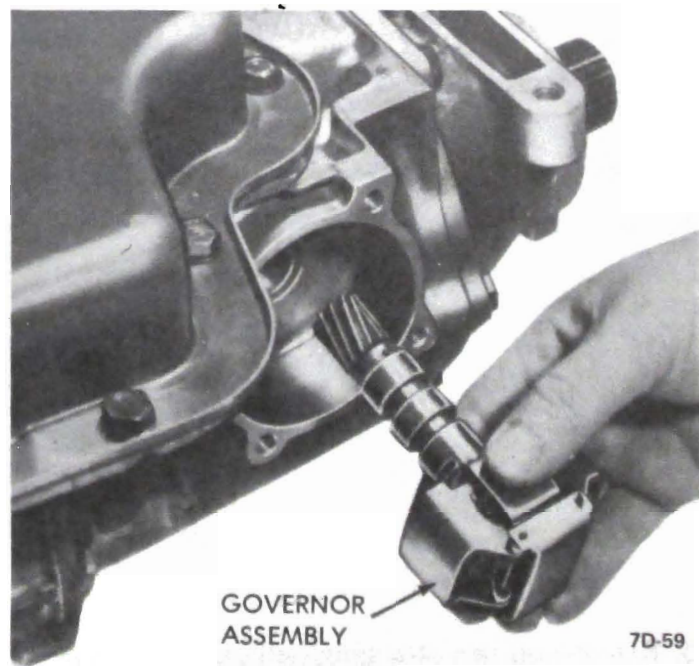

Figure 7D-20
1. Remove attaching bolts, governor cover and gasket. See Figure 7D-19.